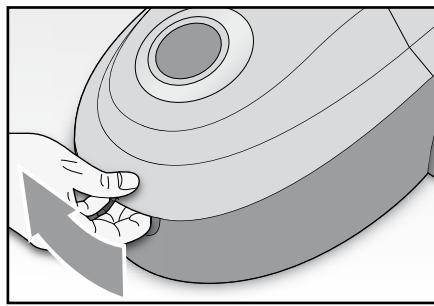

Fig. 7
- open the bag compartment by pushing the relevant lever outwards (FIG. 7).